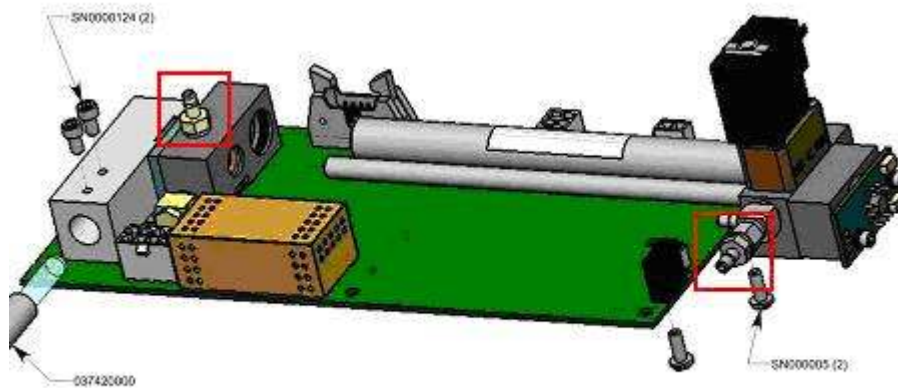

Figure 2.
2. Locate and disconnect the cables and pneumatics on the sensor module shown in figures 2 and 3.
8. Reconnect the sensor assembly to the chassis, and reconnect the cables shown in figure 2 and 3.